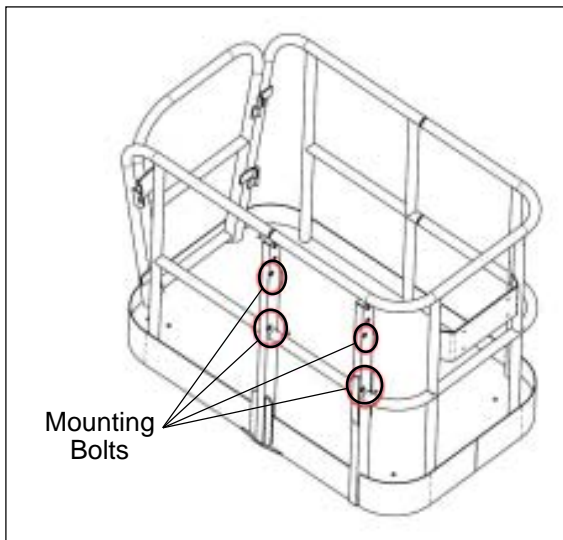
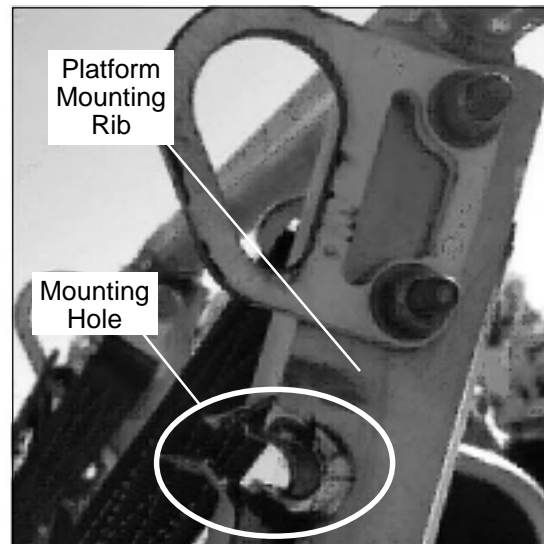

Figure 1 — Mounting Bolt Locations
Figure 2 — Torn Hole
3. Remove one of the bolts attaching the platform ribs to the mounting bracket (refer to Figure 1) and inspect the area around the hole in the mounting rib for cracks, distortion, or holes that are torn out of the rib (Figure 2).